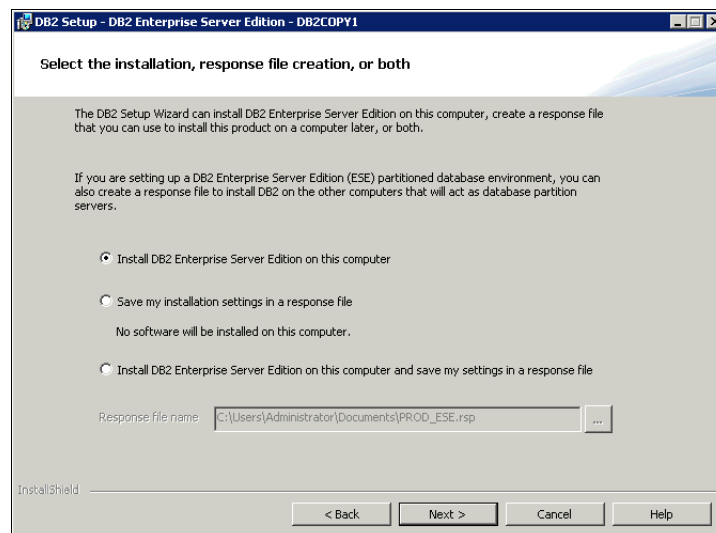

Figure 12-7 Installation action
6. Select **Install DB2 Enterprise Server Edition on this computer** (Figure 12-7). Click **Next** to continue.